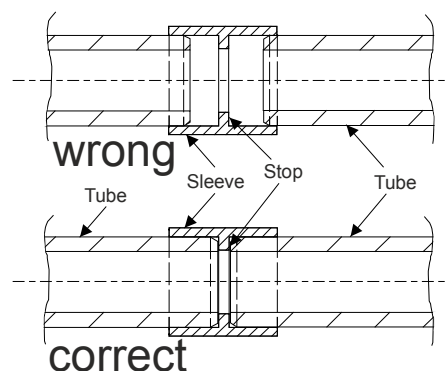

Fig. 7 Joining the tubes
- The individual pipe sections are connected to each other with fittings. Depending on the used tube material, gluing as described in Sec. 2.5.2 and 2.5.3 or pressing as described in Sec. 2.5.4 is used. The tubes are pushed into the fittings to the stop, **Fig. 7**.